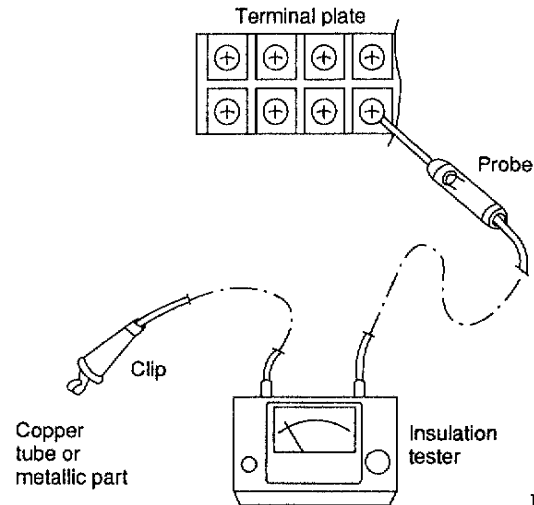

Fig. 2
In the case of RS2422B, measure the resistance by placing a probe on ① and then ② on the 4P terminal plate. (Fig. 2)
(3) Outdoor Unit
Clamp a metallic part of the unit with the lead clip of the insulation resistance tester and measure the resistance by placing a probe on ①, and then ② on the 2P terminal plate. (Fig. 2)
(4) Measurement of Insulation Resistance for Electrical Parts